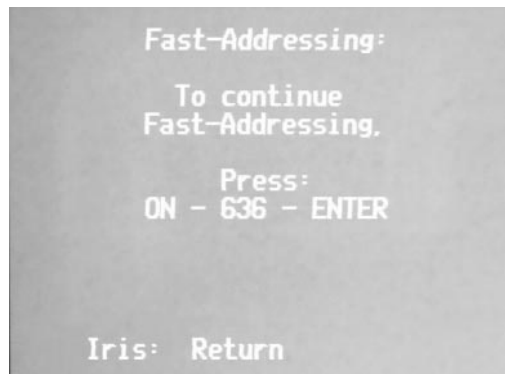

Figure FA2
3. Press ON-26-ENTER. The screen shown in FIGURE FA2 will be displayed. At this point, any camera whose ID does not begin with 26 will exit the *Fast Addressing* mode.